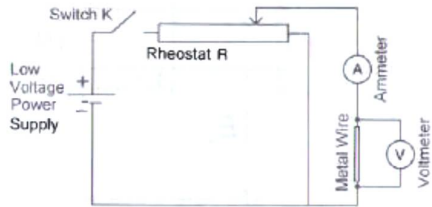

Fig. 8.1
- With switch K closed (Fig. 8.1), the rheostat can be adjusted to record corresponding readings of V and I . Obtain at least 6 sets of V and I readings. The resistance R of the wire at this temperature can be determined from the ratio of V to I . As such the average resistance of the metal wire at this particular temperature can be calculated.